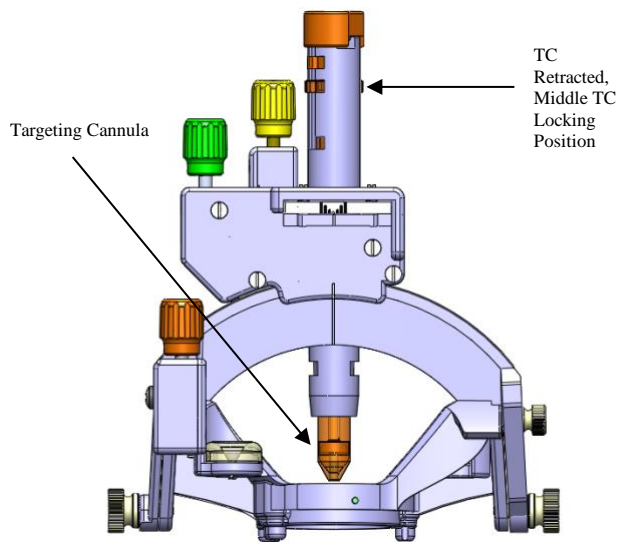

Figure 23: Targeting Cannula positioning
6. Retract the Targeting Cannula to the middle TC locking position. See Figure 23.